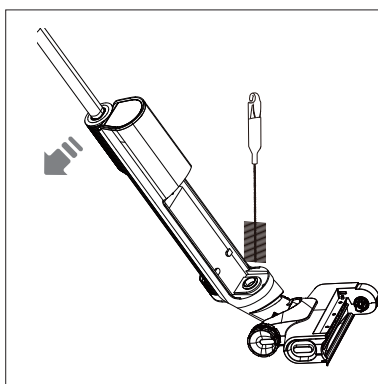

Fig. 19 – Cleaning the lines
- ▶ Clean the dirty water pipe to the cleaning foot using the cleaning brush supplied (see Fig. 19).